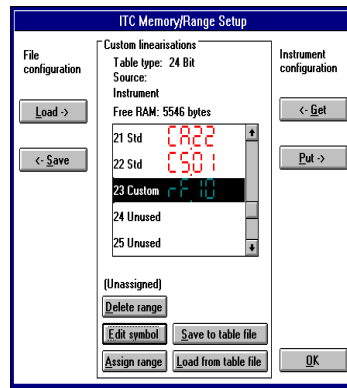

Figure 2
- Choose the menu item “Setup”/”Memory” to bring up a dialog box like Figure 2.
- Choose the menu item "Setup"/"Memory" to bring up a dialog box like Figure 2.